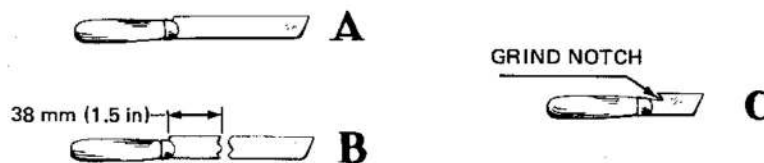

Fig.1 Rubber hose trimming tool
4. Rubber hose can be cut and the layers peeled easily and accurately by use of a standard leather knife adapted to suit the purpose as shown in fig. 1. Obtain a leather knife (A), break off the blades as in (B). Grind the end smooth and grind a notch where the blade joins the handle (C). Sharpen the rear edge of the notch and keep the blade sharp for easy stripping.